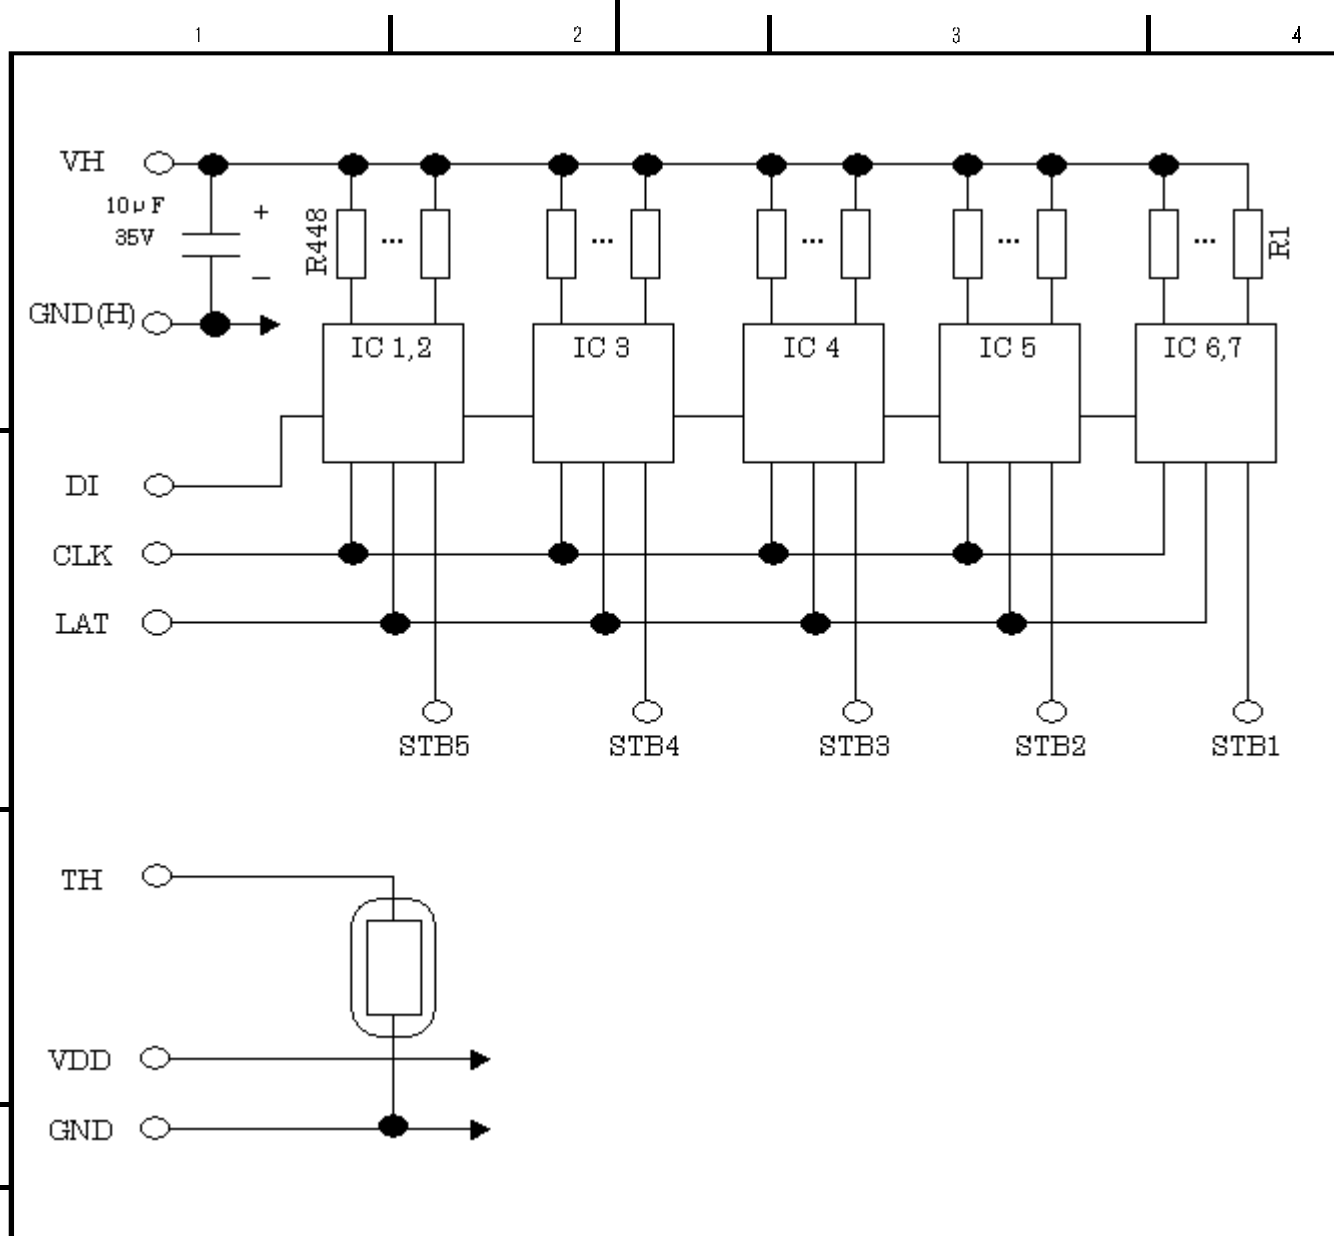

Figure 4 Circuit block diagram
1. Circuit block diagram : Figure 4